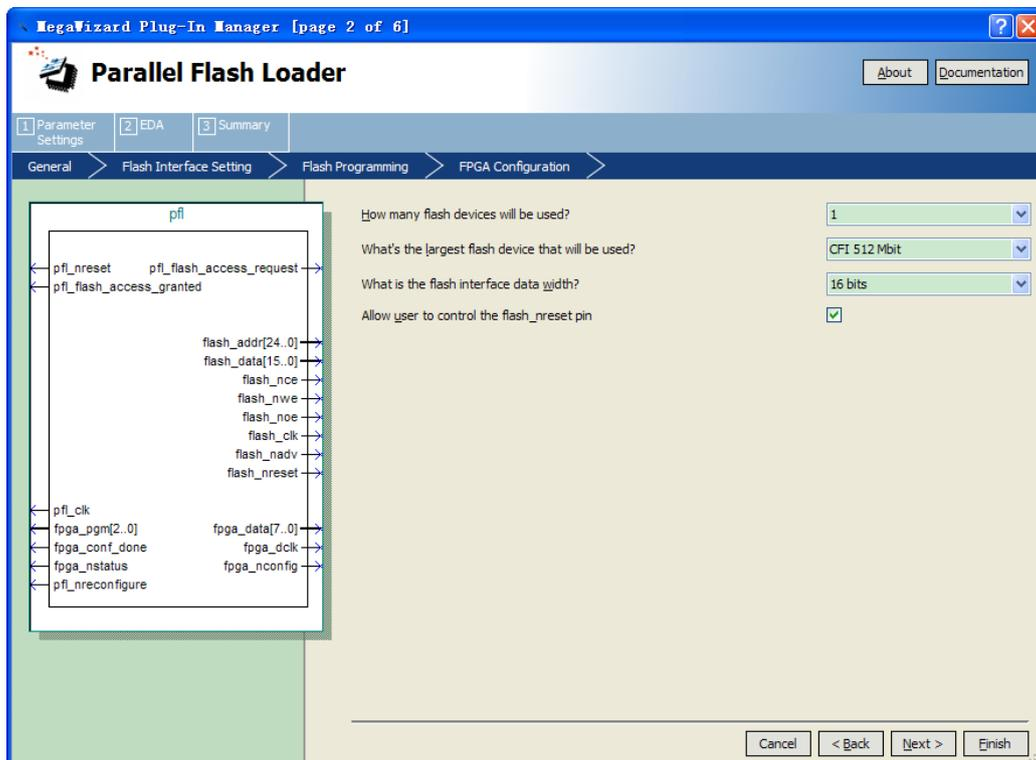

Figure 3-10 Setting the PFL Megafunction Parameters(Step 2)
- Click Next. **Flash Interface Setting** page appears and specify value as shown in Figure 3-10.